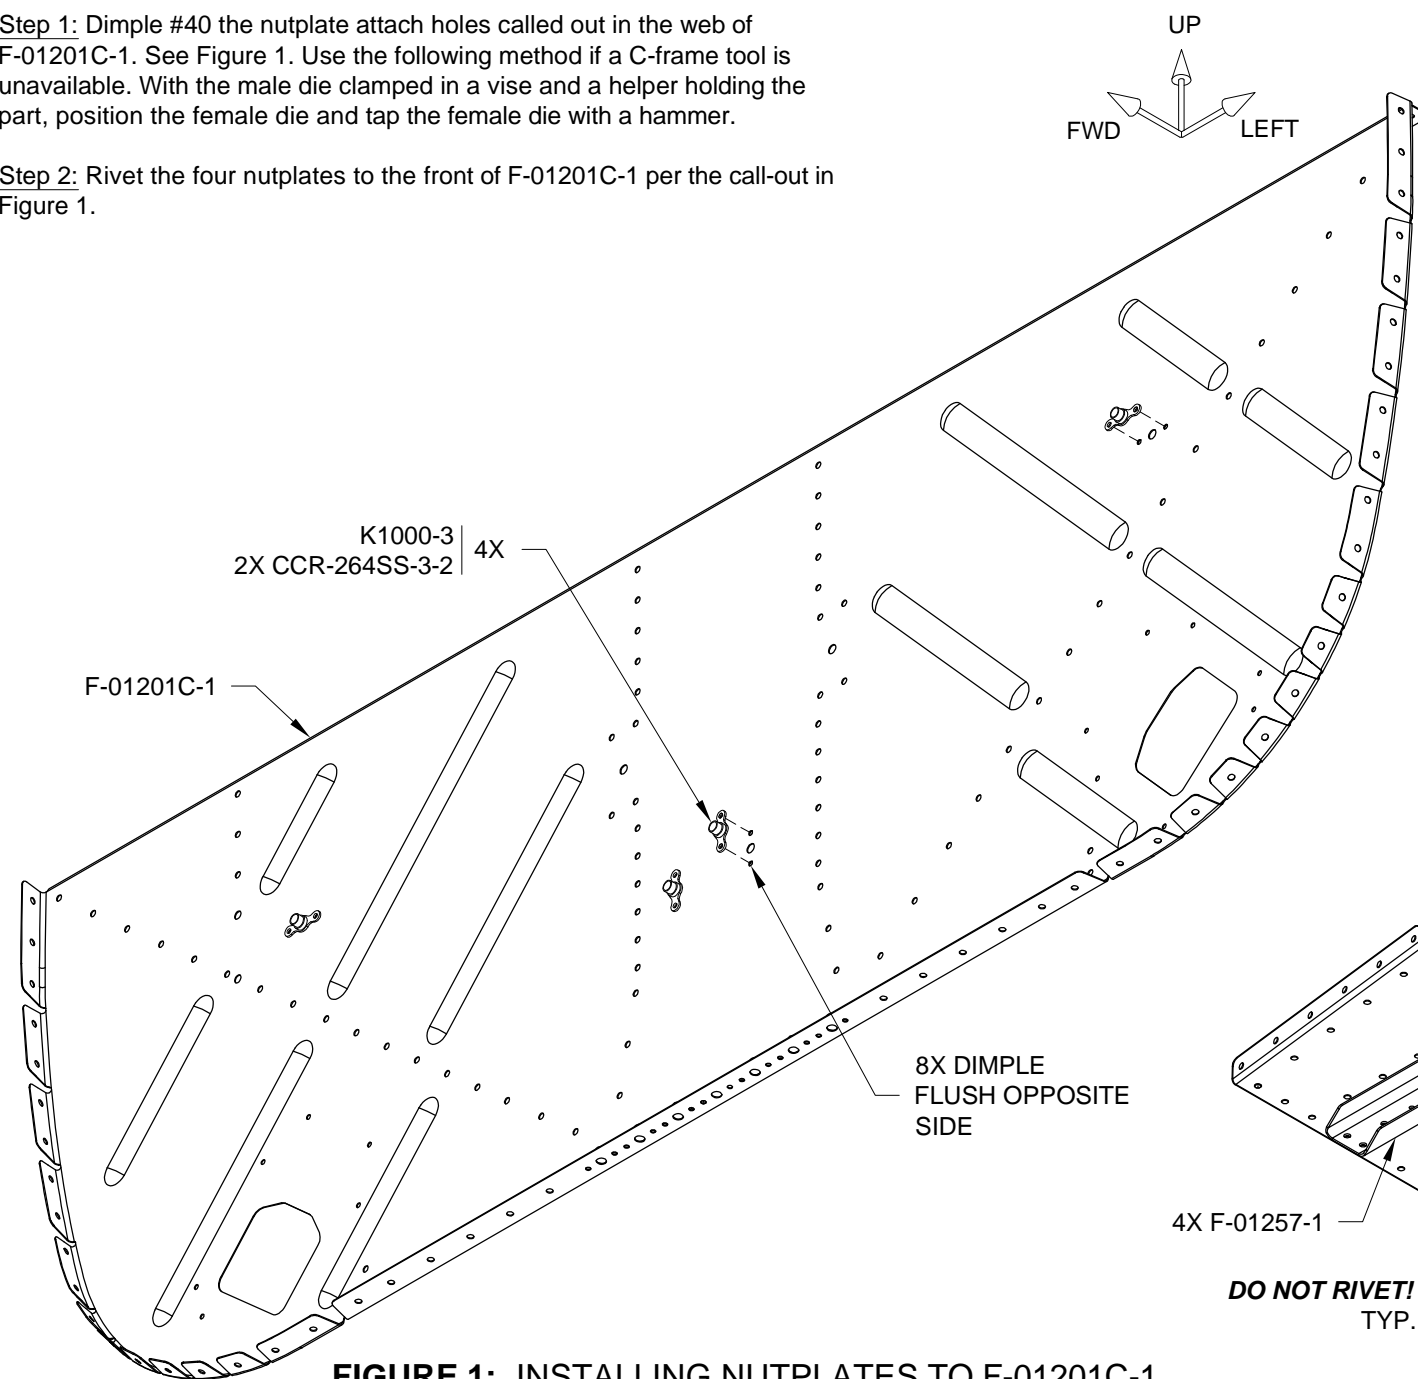

FIGURE 1: INSTALLING NUTPLATES TO F-01201C-1 (BOTTOM ISOMETRIC VIEW)
Step 1: Dimple #40 the nutplate attach holes called out in the web of F-01201C-1. See Figure 1. Use the following method if a C-frame tool is unavailable. With the male die clamped in a vise and a helper holding the part, position the female die and tap the female die with a hammer.
Step 2: Rivet the four nutplates to the front of F-01201C-1 per the call-out in Figure 1.